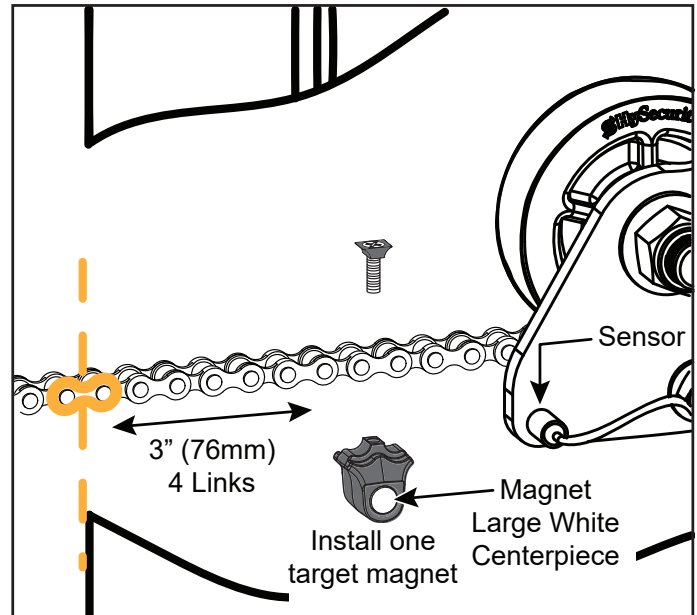

Figure 18. Installing Target Magnet
1. With gate CLOSED, mark chain link directly in front of target sensor. See Figure 18.
5. Fasten the target magnet to the chain link as shown in Figure 18. Make sure the large white centerpiece is facing toward the operator. Insert the screw and tighten it securely.